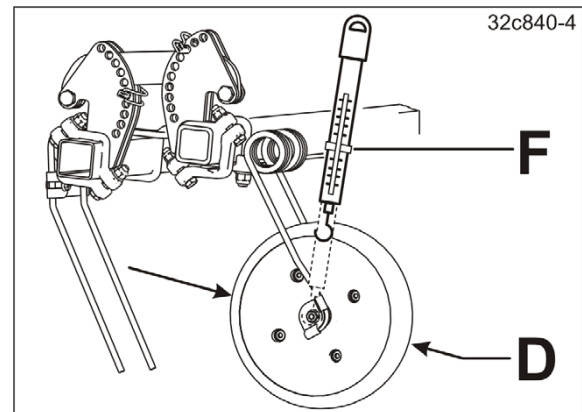

Fig. 185
6. Check the roller contact pressure, e.g. with a spring balance (see Fig. 185).